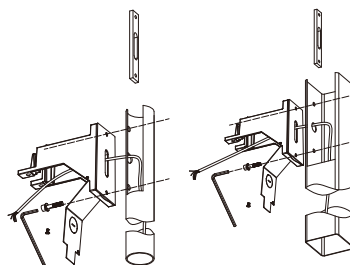

Fig 25
Step 2 . After the bolt passes through the Type C bracket and the lamp post, screw the screws on the sticking strips with a wrench. The bracket is fixed on the lamp post, as shown in Fig. 25